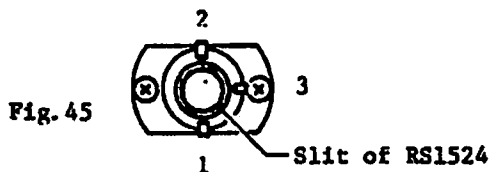

Fig. 45
1. Slit of Pipe (RS1524) is positioned to the direction as shown in Fig. 45.
2. Adjust the mesh for Pinion shaft and Rack plate by fixing screws ① and ②.
3. Adjust the longitudinal play and torque of Pinion shaft by fixing screw ③.